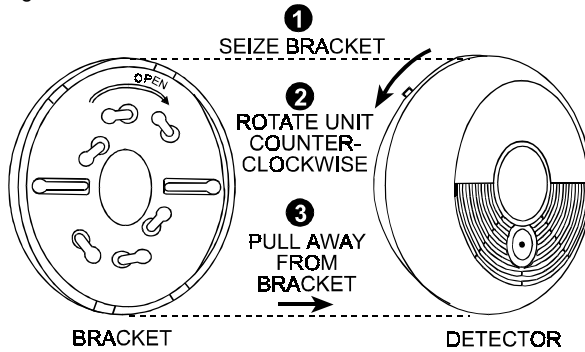

Figure 1. Separating the MCT-423 from its Bracket
A. Separate the unit from its mounting bracket as shown in Figure 1.